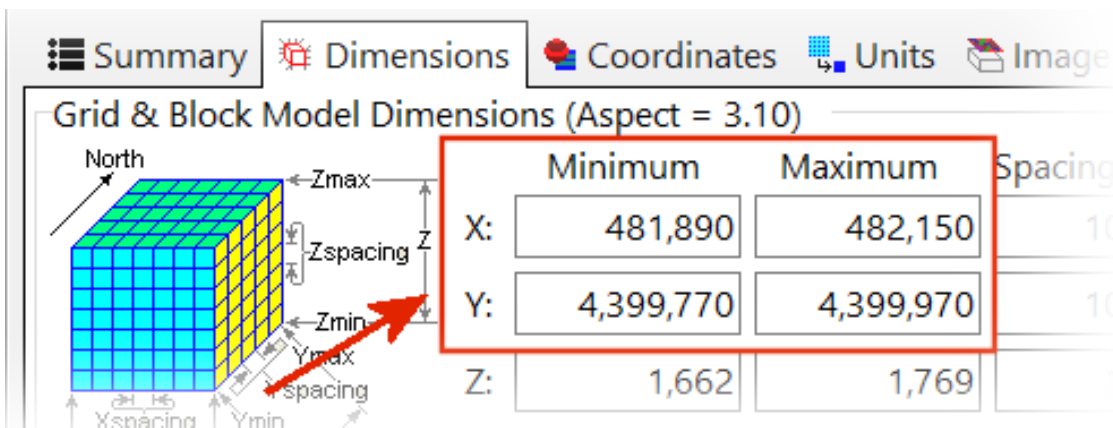

Figure 18
- After running this step, note that the Project Dimensions have adjusted themselves to nicely enclose the new data (Figure 18).